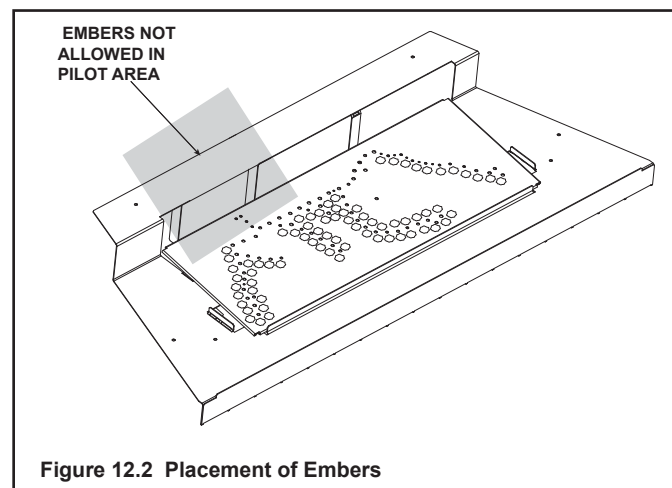

Figure 12.2 Placement of Embers
- Place dime-size pieces of Glowing Embers® just in front of the port trail, but not on or in between the ports (see Figure 12.2). Care should be taken so that the ports are not covered. Failure to follow this procedure will likely cause lighting and sooting problems.